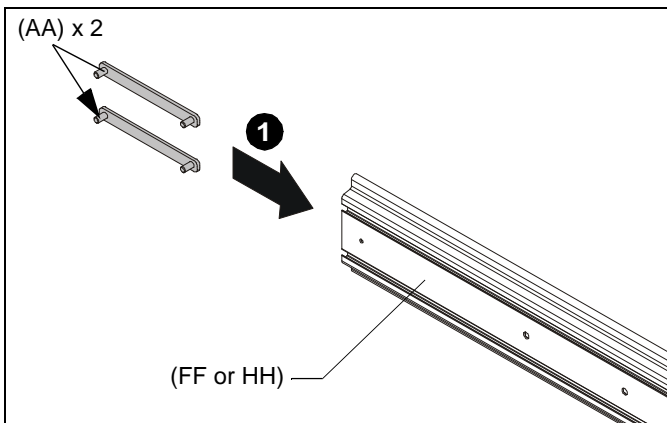

**Figure 9**
1. Arrange column assembly so that the open side of the array head (X) is facing the back of the video wall. (See Figure 9)
2. Loosely fasten column assembly to array offset (N) using four 5/16" x 1" hex head self-tapping screws (S), four 5/16" split washers (T), and four 5/16" washers (U). (See Figure 9)